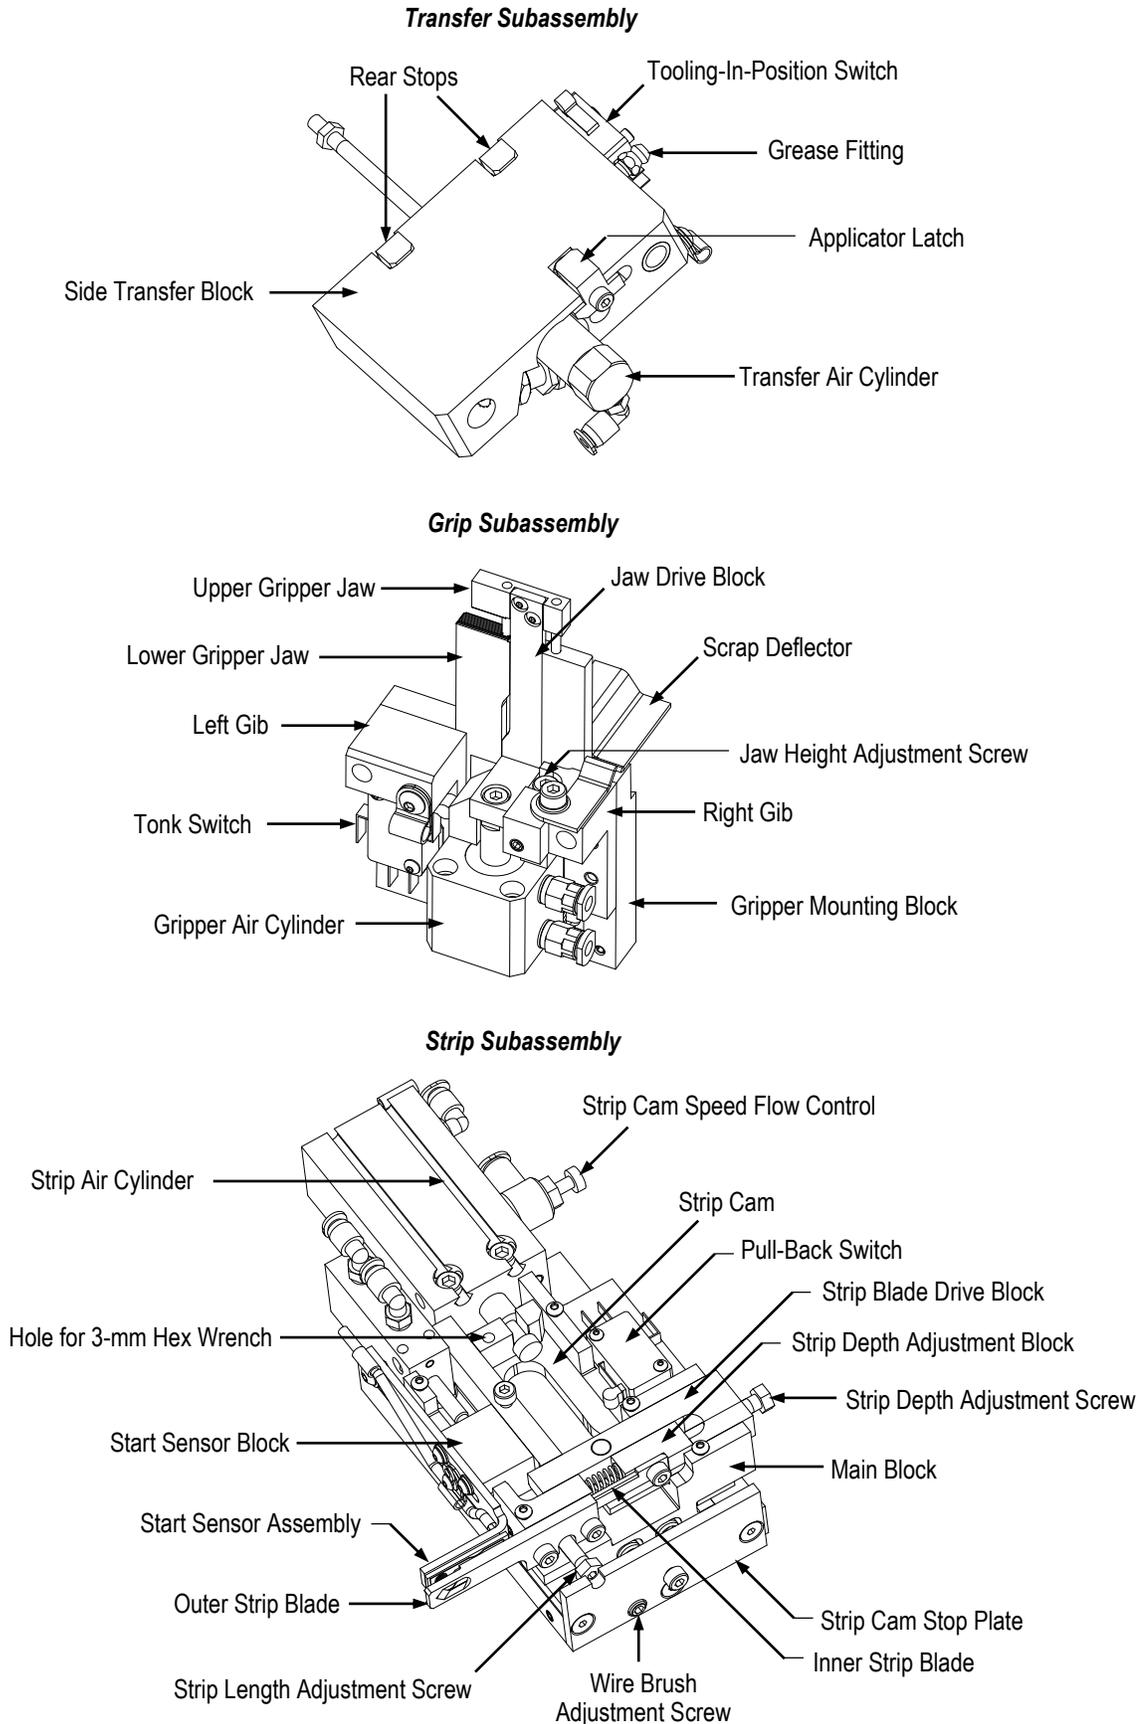

Figure 18
The strip blades must be adjusted to a depth that will permit the cutting and stripping of the insulation slug from the conductor wires. This adjustment is made by turning the setscrew *clockwise* to strip a *smaller* wire and *counter-clockwise* to strip a *larger* wire. Refer to Figure 18.
This adjustment is made with the adjustment screw located at the front of the stripping module. Turn the adjustment screw *clockwise* to *increase* the strip length or *counterclockwise* to *decrease* the strip length. Refer to Figure 18.
2. Slightly loosen the applicator latch located on the transfer subassembly. See Figure 18.
2. Place a wire onto the lower jaw (see Figure 18), and insert the wire through the opening in the strip blades.
2. Push the transfer subassembly (see Figure 18) along with the strip subassembly to the right-side position.
4. Manually close the upper gripper jaw (shown in Figure 18) onto the wire.
To adjust the strip air cylinder speed, turn the flow control knob on the side of the strip air cylinder *clockwise* to *decrease* the speed, and turn the knob *counter-clockwise* to *increase* the speed. Refer to Figure 18.